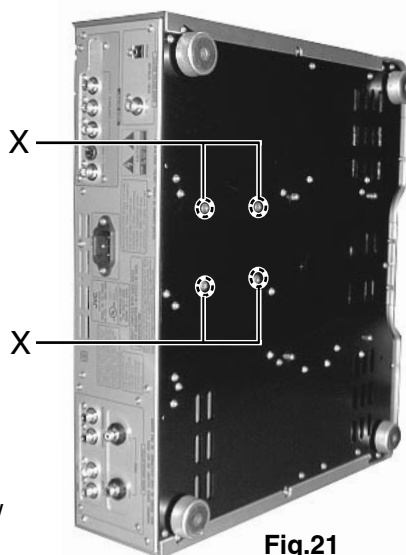

Fig.21
■ Removing the power transformer (See Fig.21)